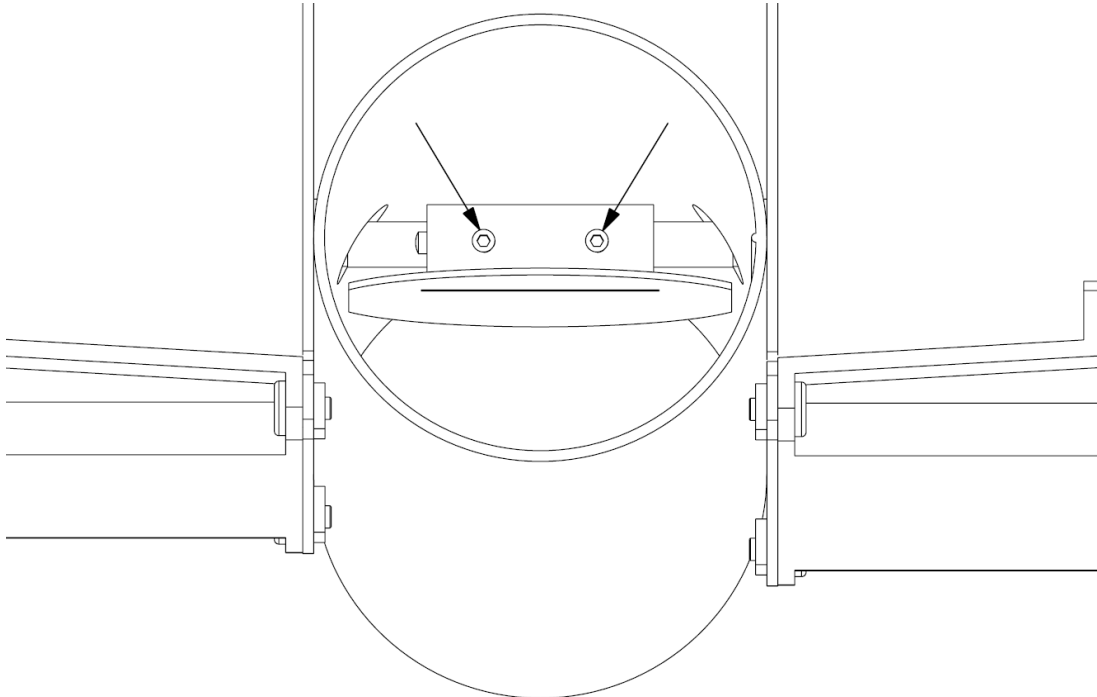

Figure 7-17: Check valve set screws
23. Secure the check valve in place by tightening the set screws. Reference **Figure 7-17**.